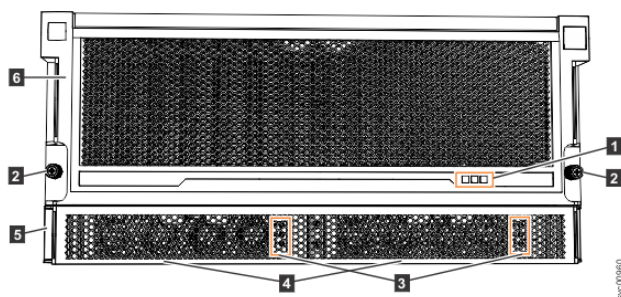
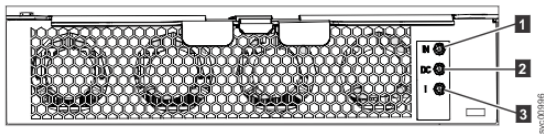

Figure 178. LEDs on the front of the expansion enclosure
Figure 179. LEDs on the front of a power supply unit
As Figure 178 on page 223 shows, the front of the 5U expansion enclosure contains LEDs for the display panel (1) and for each of the power supply units (3).
The 5U expansion enclosure contains two PSUs (4) in Figure 178 on page 223 that are accessible from the front of the enclosure. Each PSU has its own a set of LEDs, as shown in Figure 179 on page 224.